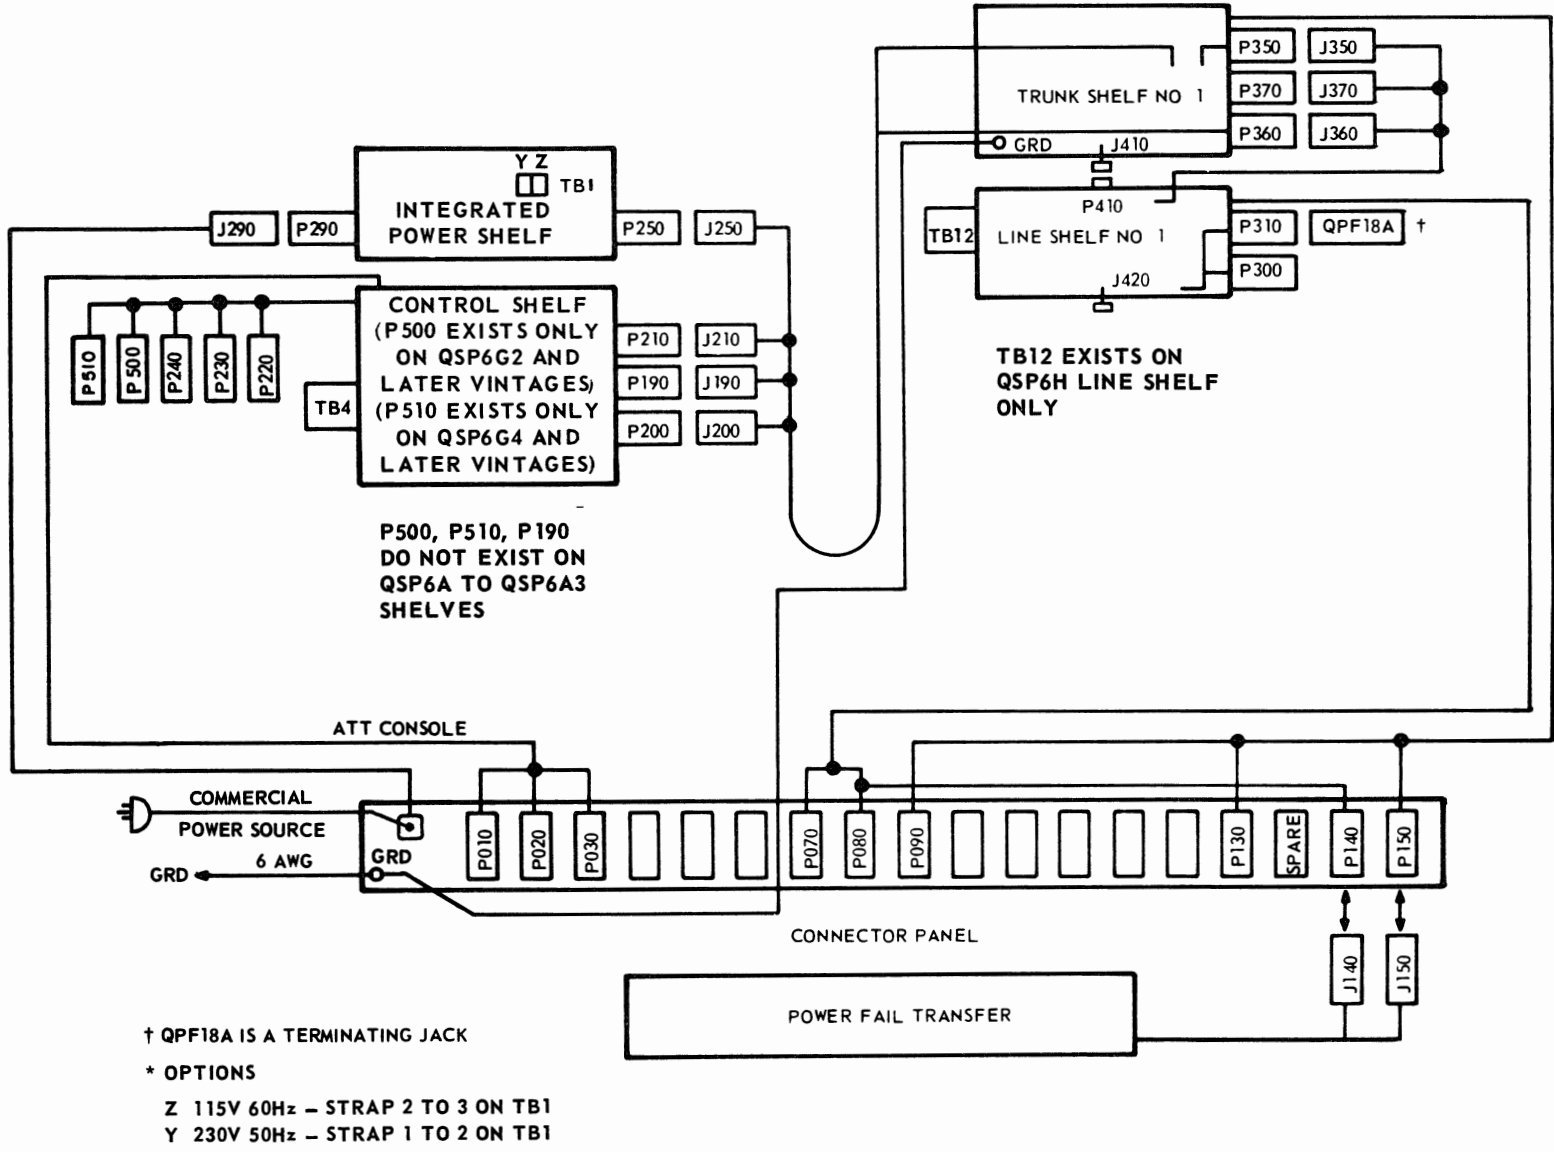

Fig. 2 — Internal Cabling of Basic Unit
2.03 The shelf itself is operated from the commercial power source which may be optionally 115 V 60 Hz or 230 V 50 Hz (refer to Fig. 2).
4	Connect lead (no. 14 or) to the terminal designated +5 opt and connect option sense lead from option shelf refer Fig. 2, as they had previously been connected.